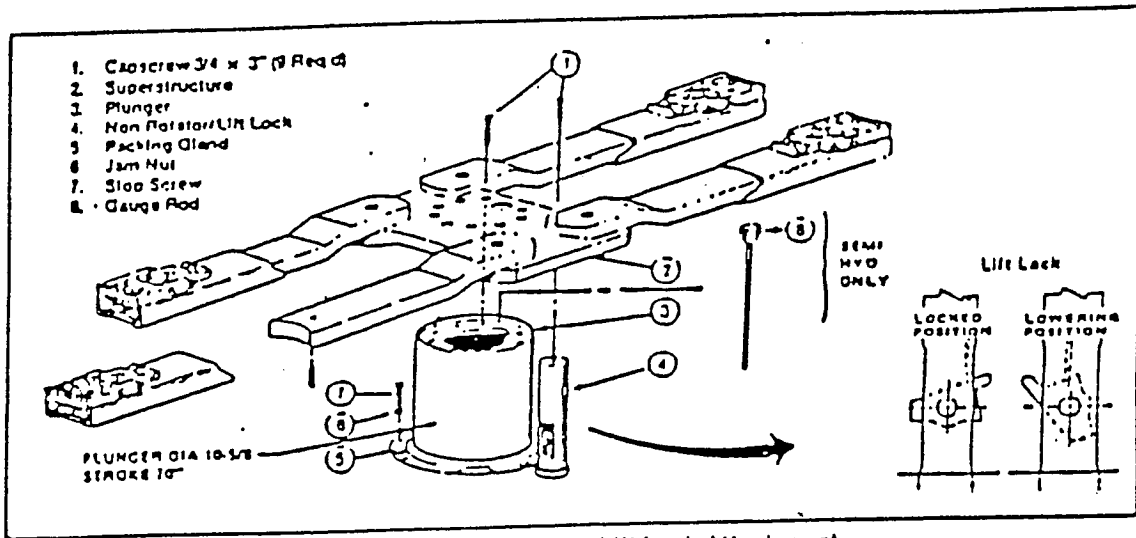

Fig.8 Superstructure and Lift Lock Attachment
11. Locate superstructure (item 2, Fig. 8) on plunger (3) and align with lift lock (4). Install eight capscrews (1) and torque to 100 ft. lbs.
12. **Adjusting Superstructure Stop:** With superstructure in fully lowered position, adjust stop screw (7) until arms swing freely. Then lock stop screw (7) with jam nut (6). See Figure 8.
13. Raise plunger slightly and connect Non-Rotating Device/Lift Lock (4) to the superstructure with capscrew (1) as in Figure 8. Lift may now be raised to full height (see operations).